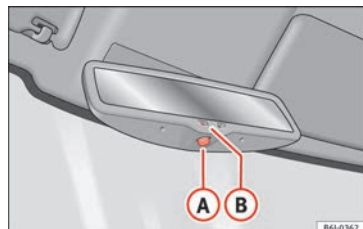

Fig. 72 Automatic anti-dazzle interior rear vision mirror.
- Press button **A** » Fig. 72. Control lamp **B** goes off.
- Press button **A** » Fig. 72. The control lamp lights up.